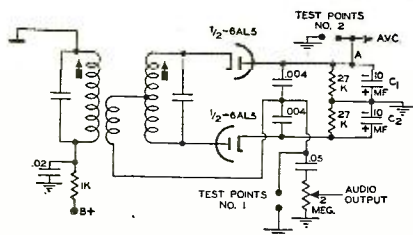
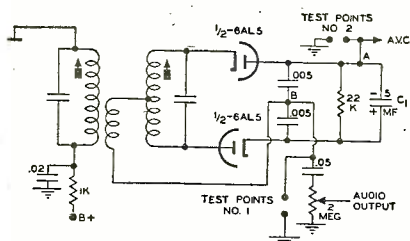

Fig. 3. A balanced ratio detector. The indications obtained at test points 1 and 2 are discussed in detail in the text.
Fig. 4. An unbalanced ratio detector. See text for uses of the test points 1 and 2.
b. *Ratio FM Detectors:* Ratio detectors are either balanced or unbalanced and the method of using the test points afforded by this circuit varies with the arrangement of the detector. In the balanced circuit, Fig. 3, placement of an oscilloscope across test points No. 1 will produce an S-curve characteristic when an FM signal is applied to the grid of a preceding stage. The same two terminals can be used by a vacuum-tube voltmeter when an AM signal generator is connected to a previous stage. The method is similar to the one employed for the Foster-Seeley discriminator.
In the unbalanced ratio detector, the S-curve appears when an oscilloscope is connected to the test points No. 1. See Fig. 4. However, to check the linearity of this ratio detector using a vacuum-tube voltmeter, the following must be done. Connect two 68,000-ohm resistors in series across the 5  $\mu$ f. condenser, Fig. 4, and attach the common lead from the vacuum-tube voltmeter to the point between the 68,000-ohm resistors and the d.c. probe of the meter to terminal B. Now feed in signals having frequencies above and below the i.f. value and note the meter readings. Linearity will be determined by how many equal voltage readings but of opposite polarity are obtained for frequencies equally situated above and below the i.f.
Test points No. 2 in the ratio detector are placed where the a.v.c. voltage is developed. See Figs. 3 and 4. This point may be considered as the counterpart of the test point in the grid circuit of the limiter stages.
When checking the alignment of the i.f. stages using an AM signal generator, a vacuum-tube voltmeter is connected to test points 2 (Figs. 3 and 4). (Note that the voltage polarity at point 4 is negative with respect to ground.) A voltage will appear at point 4 if a signal is able to pass through the i.f. stages. Test points 2 are thus useful for peaking i.f. coils.
If it is desired to check the alignment of the i.f. stages with a sweep generator, then the vertical terminals of an oscilloscope are connected across test points No. 2 but with the following precaution: Disconnect the electrolytic condenser connected from the a.v.c. point to ground. This is the top 10 µfd. condenser in Fig. 3 and the 5 µfd. condenser in Fig. 4. Now, connect the sweep generator to the control grid of the first i.f. stage and the response pattern for the i.f. system will appear on the screen.